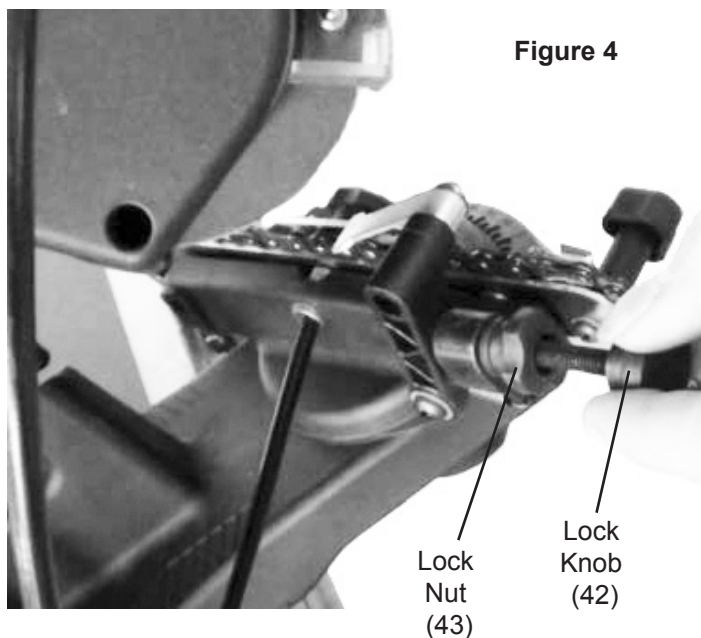

Figure 4
8. Depending on the amount of chain material you wish to sharpen, tighten or loosen the Lock Knob. The Lock Knob has a Lock Nut which will determine how much material is removed during sharpening. Once you set the Lock Nut, fully tighten the Lock Knob. See Figure 4.